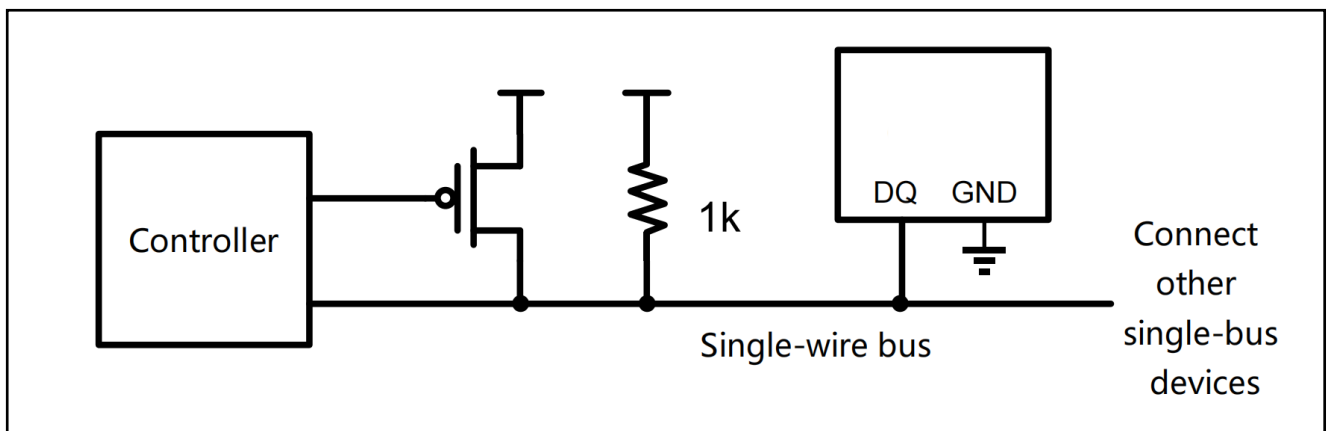

Figure. 2. DS2431 parasitic mode data replication circuit
(1) a 64-bit mask ROM, (2) a 64-bit scratchpad, (3) four 2-byte EEPROM pages, and (4) a 64-bit register page. The hierarchy of the 1-Wire protocol is shown in Figure 2. master must first send one of the following seven ROM operation commands:
The DS2431 operates in parasitic power mode. Parasitic power mode is very useful in long-distance testing or space-constrained applications. The circuit of the parasitic power is shown in Figure 2. When the bus is high, this control circuit "steals" energy from the bus. Part of the "stolen" energy is stored in the parasitic power storage capacitor, and this energy is released to power the device when the bus is low.